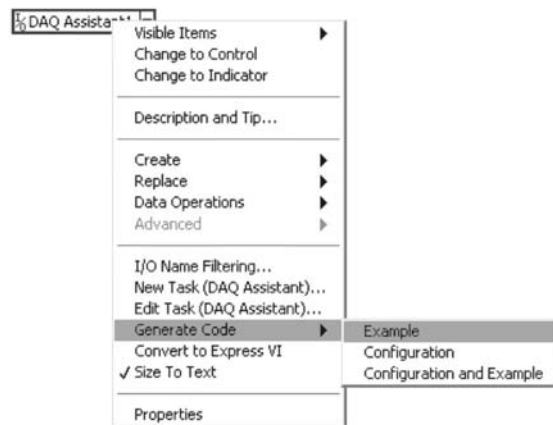

Figure 11.15 Generate code.
**Step 1:** Right-click the control on the front panel and select *Generate Code»Example* from the shortcut menu as in Figure 11.15.